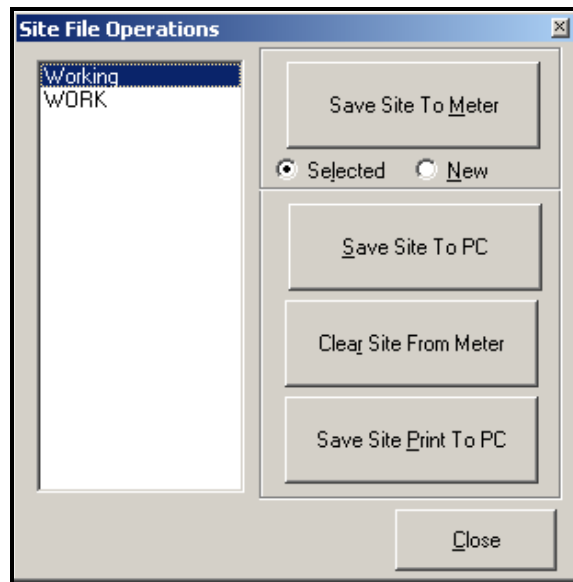

Figure 49: Site File Operations Window
- Click on the [Site Files] button. The *Site File Operations* window (shown in Figure 49) opens.
3. The *Site File Selection* window (Figure 49 on page 140) opens. Highlight a site file with the desired settings, and click [Open]. The site file becomes the *Working* site in the meter with the desired settings.
1. Highlight the desired site in the left pane. (See Figure 49 on page 140.)
1. Highlight the site in the left pane. (See Figure 49 on page 140.)